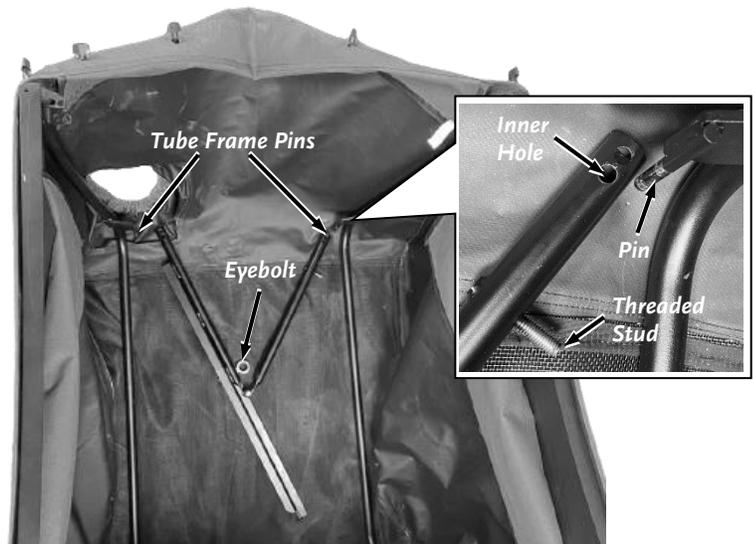

Figure 37
1. Lay the Hinge Tube Assembly into the canvas with the eyebolt laying flat on the canvas floor as shown in **Figure 37**.